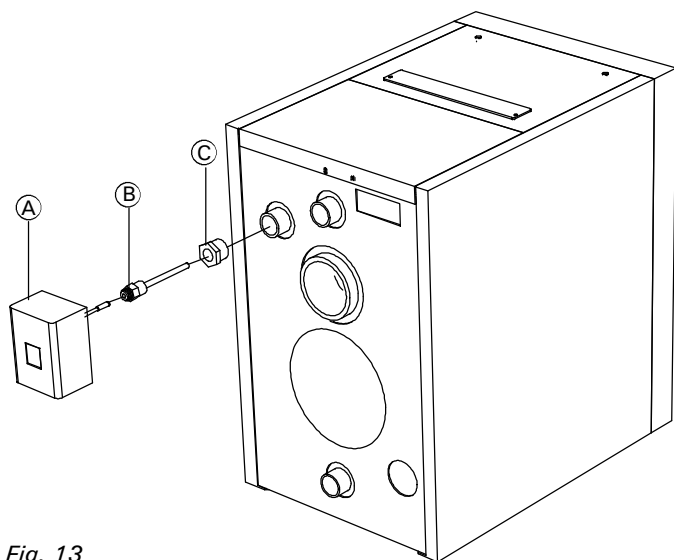

Fig. 13
1. Install supplied high limit control as shown in Fig. 13.